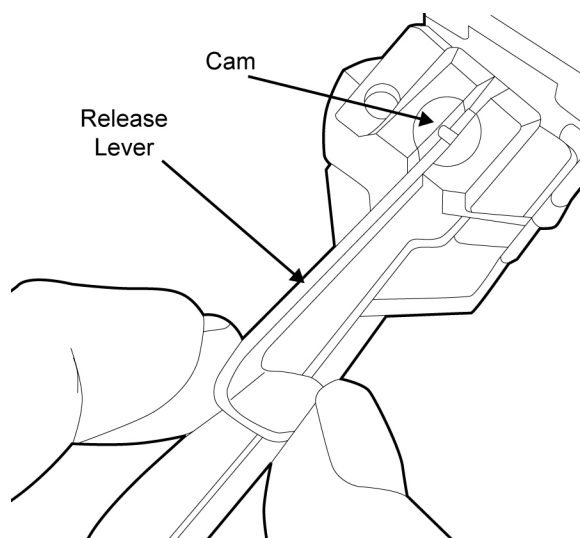

Figure 39. Removing the Release Lever.
- c. Pull the release lever out of the rear of the side folding buttstock. Refer to Figure 39.